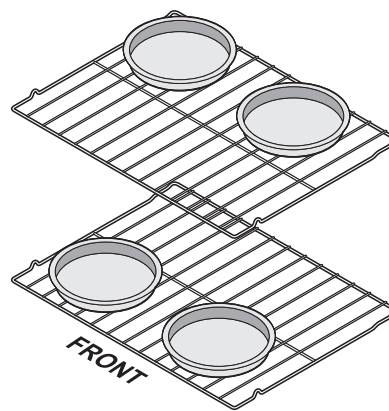
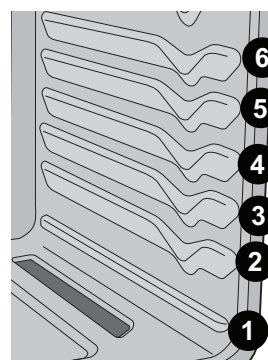

Figure 12: Baking on multiple levels
Fig. 13 Oven rack positions
- For best results when baking cakes or cookies using 2 oven racks, place cookware as shown in Fig. 12, on page 19 and place racks in rack positions 3 & 5. (Fig. 13, on page 19)